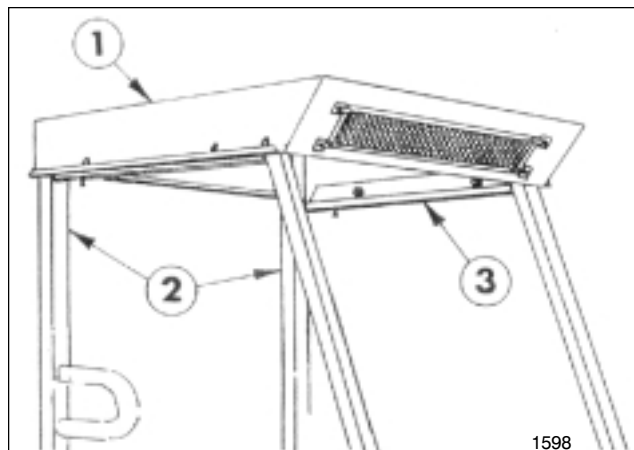

FIG. 3
11. Remove the (3) 1/4" flange hd. bolts that secure the Blower Assembly to the front of the Enclosure Cover and remove Blower. Set Blower and flange bolts aside for future installation.
12. Remove the (4) 3/8" x 3/4" flange hd. bolts, lockwashers, and hex nuts that secure the two Door Channels to Enclosure Cover. Set Door Channels and flange bolts aside for future installation.
13. Set Enclosure Cover on top of the ROPS by hooking the rear of Enclosure Cover over the back of the Rear ROPS Bar and slide Cover forward to align front mounting holes. See FIG. 3.